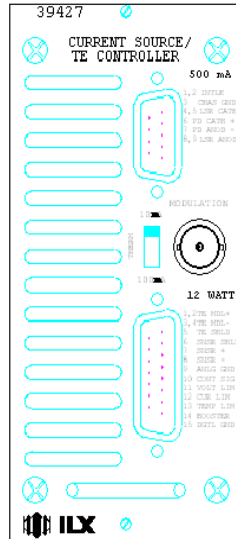

Figure 2.1 LCM-39427/437 Back Panel
- 2 Place the LCM-39427/437 module into an open bay on the back of the LDC-3900 and slide the module into place. There are tracks at the top and bottom of the bay which guide the module into place. Push the module into place until the board edge clicks into place with an audible "pop." This indicates that the module is "locked" into place. Fasten module to the mainframe with the Module Locking Screws (see Figure 2.1) to secure the module. It is then ready to be used in the LDC-3900.
Refer to Figure 2.1 for the following discussion of connections to the LCM-39427/437.